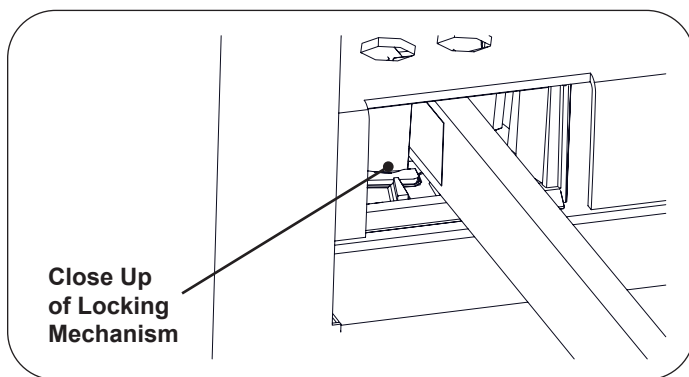
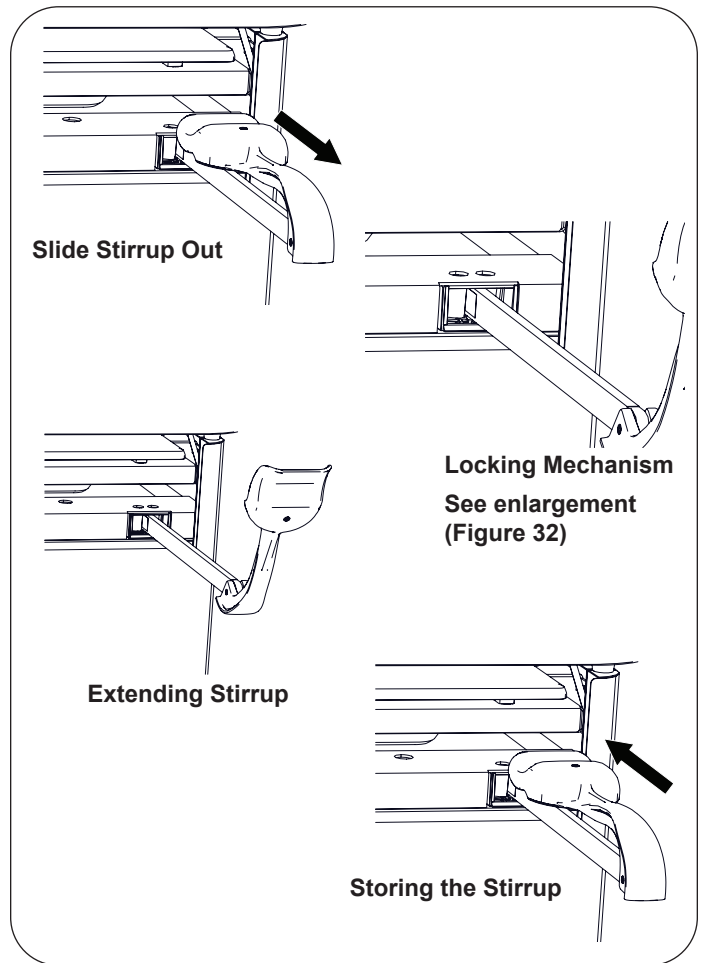

Figure 32. Stirrup Locking Mechanism
Figure 33. Stirrups
1. To operate the stirrups, grasp end of stirrup and pull straight out of the table (Figure 33). Lift up slightly while sliding the stirrup out.
2. When the desired position is achieved, lower the stirrup to engage the lateral locking mechanism (Figure 32 and Figure 33).